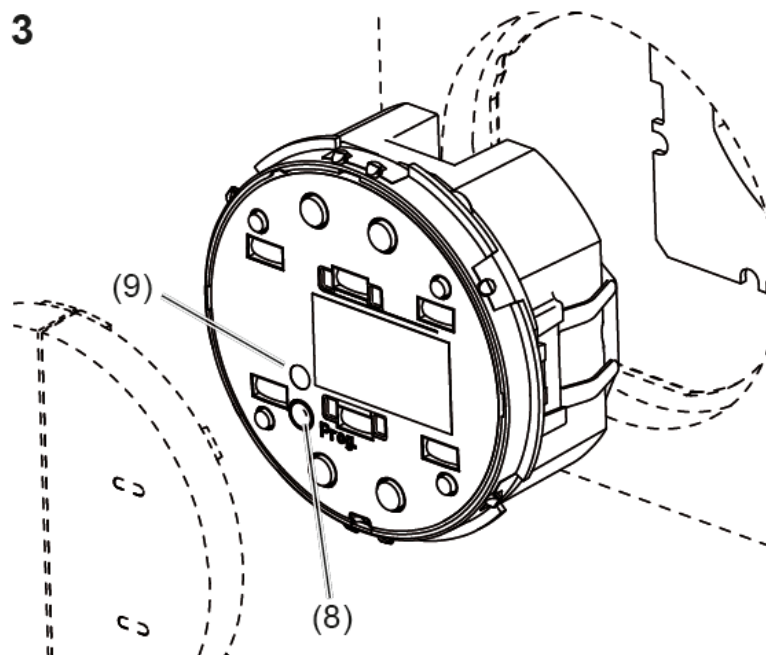

Figure 3
- Press the programming button (Fig. 3, 8) to activate programming mode. The programming LED (Fig. 3, 9) lights up.